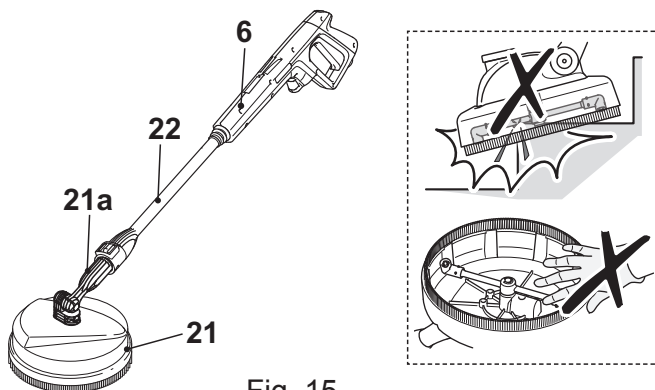

Fig. 15
4. Attach the patio brush (21) onto the extension lance (22) (Fig. 15).